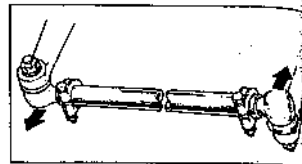

Fig. 11.13 Tap the balljoints in the direction of the arrows (Sec 14)
- (b) Referring to Fig. 11.13, tap each balljoint in the direction indicated so that the angular plane of each ball-pin is identical